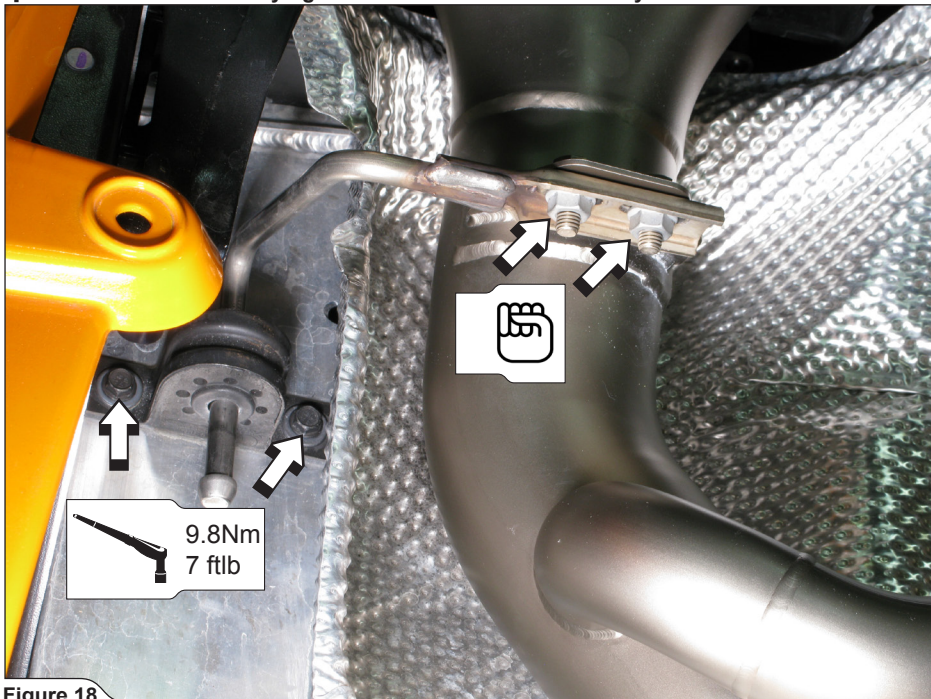

Figure 18
8. Bolt both rear muffler brackets onto the chassis and hand tighten them onto the muffler, using stock bolts, nuts and washers (**Figure 18**).